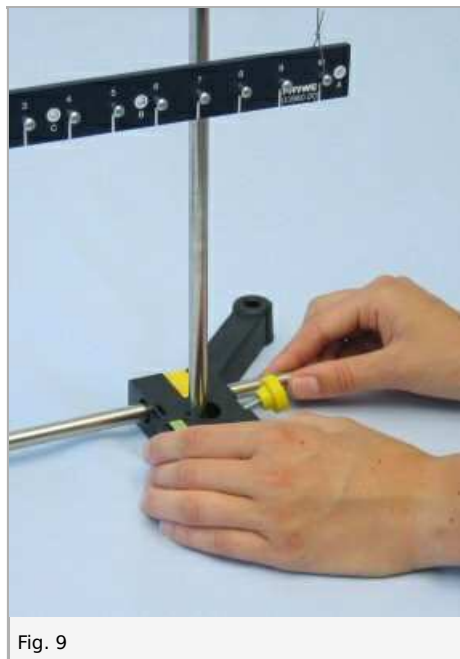

Fig. 9
- Adjust the support base halves so that the spring balances and thread loops are perpendicular (Fig. 9).